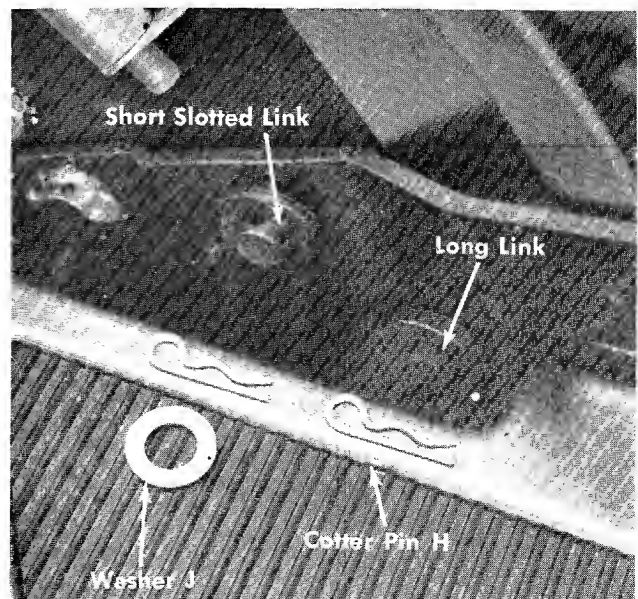

FIGURE 12. CENTER LINK ASSEMBLY
- Place the two center links through the hole in the foot rest and attach the short slotted link to the pin in the lift arm and attach the long link to the pin in the frame. See figure 12.
- e. Place washer "J" over the short slotted link and secure both links with cotter pins "H". See figure 12.